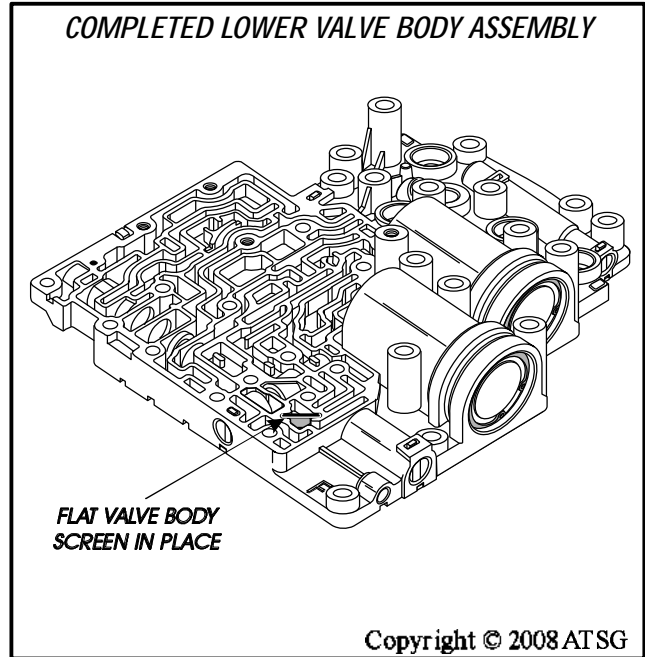

Figure 165
21. Ensure that the flat valve body screen is still in place, as shown in Figure 165, and set the completed lower valve body aside for the final valve body assembly process.